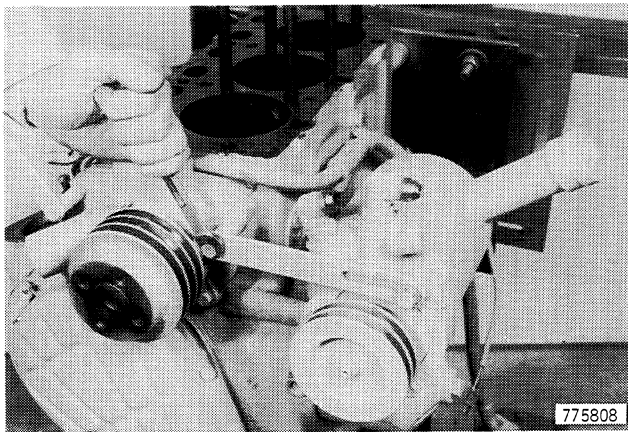

Figure 62
6. Remove the cap screw from the strap that adjusts the steering pump belt, Figure 62.